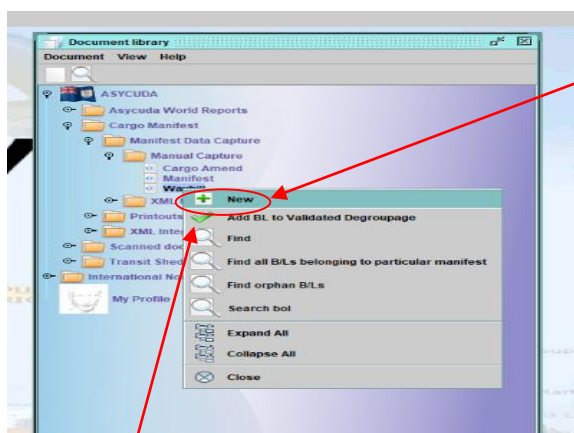

Figure 40. New waybill
A screenshot of the ASYCUDA World Manifest - Waybill form. The form is titled 'Manifest - Waybill' and has a menu bar with 'File', 'Edit', 'View', and 'Help'. The form contains several sections: 'Office of departure / arrival' with a dropdown menu; 'General Information' with fields for 'Voyage number' (12555555), 'Date of departure' (10/10/2019), 'Date of arrival' (10/10/2019), 'Time of arrival' (2019 / 10 / 10), 'Waybill reference number' (12555555), 'Waybill type' (710 - Bill of lading), 'Nature' (23), 'Last discharge' (2), 'Master waybill number' (5086258), 'UCR', 'Place of loading' (ANGUILLA), 'Place of unloading' (ANGUILLA), 'Carrier' (CC04), 'Exporter/Shipper' (Penny Hardware Miami), 'Shipping agent' (81010476), 'Transport' (Mode: 1 - Sea transport, Nationality: VC - Saint Vincent and the Grenadines), and 'Identity' (Capt chrissey). Red arrows point from the 'New' option in Figure 40 to the 'Waybill type' field and the 'Place of loading' field in this form.